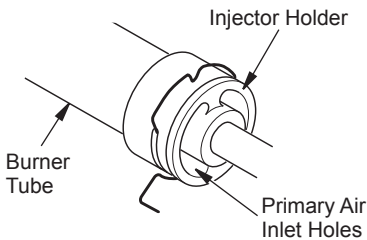

Figure 45 - Injector Holder On Outlet Burner Tube - Rear Burner
2. Inspect burners, pilot, and primary air inlet holes on injector holder for dust and dirt (see Figures 45 and 46, page 26).